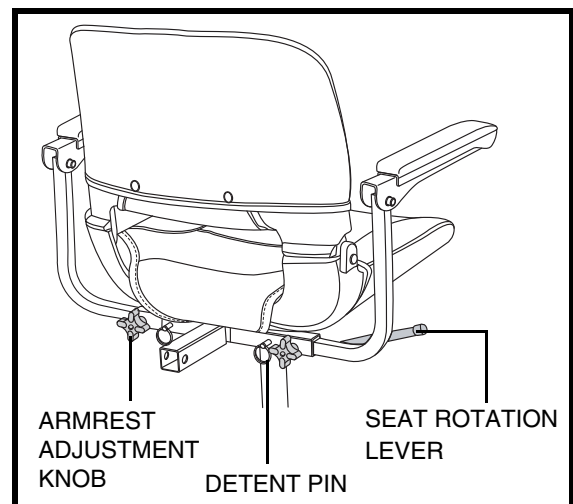

Figure 18. Seat Adjustments
The seat rotation lever, located on the right side of the seat base, secures the seat into several positions. See figure 18.
1. Loosen the armrest adjustment knobs. See figure 18.